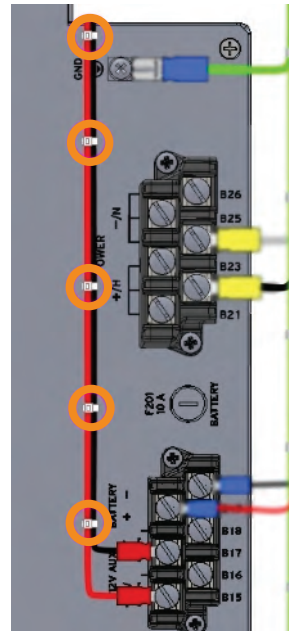

Figure 6 Connect 12 V Terminal Block Wires
Step 11. Route the wires down the other side of the control module and attach the red wire to **B15** and the black wire to **B17**. See *Figure 6*.